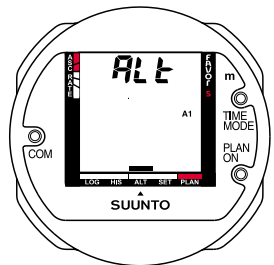

Fig. 4.7 PERSONAL/ ALTITUDE ADJUSTMENT SETTING, STEP 1
1. Activate the personal/altitude adjustment setting mode by connecting the TIME/MODE and COM contacts continuously. Release your fingers immediately when Alt appears on the display. Within a couple of seconds the present personal/altitude adjustment setting is shown (Fig. 4.7).